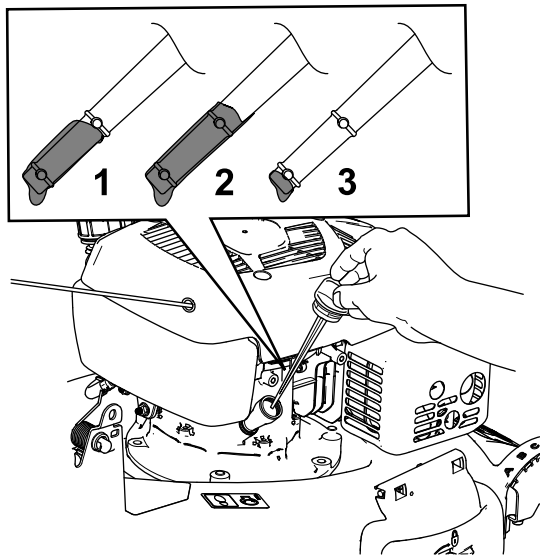

Figure 8
3. Remove the dipstick (Figure 8) and pour about 3/4 of the crankcase capacity of the specified oil into the oil-fill tube.
6. Read the oil level on the dipstick (Figure 8).